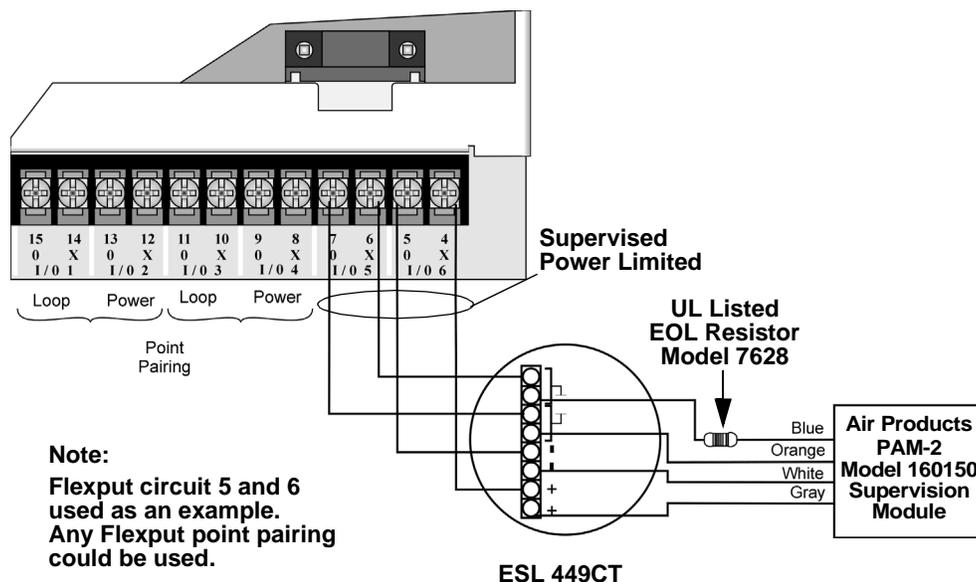

Figure 4-43 Class B 4-Wire Smoke Detector Connections
Figure 4-43 illustrates how to install a 4-wire Class B smoke detector.
2. Each Class B loop input is paired with a unique power source as shown in Figure 4-43.
Note: In programming any point that uses multiple Flexput circuits, the lowest Flexput circuit number is used to refer to the circuit pair. For example, Figure 4-43 uses both Flexput circuit 5 and 6, so in programming it would be referred to as point 5.